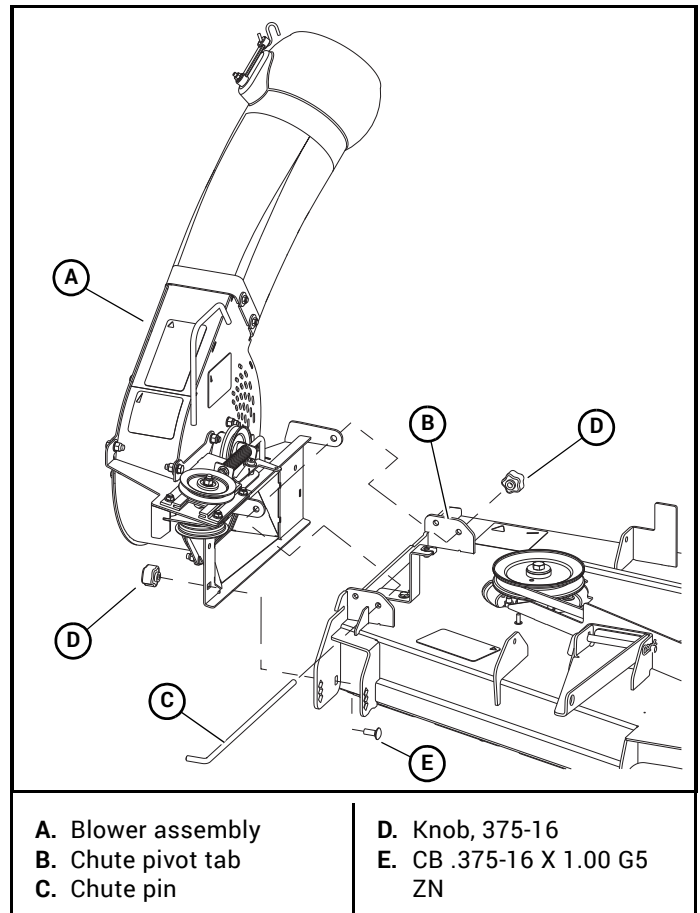

Figure 4-5
4. Remove the blower assembly from the deck. Figure 4-5